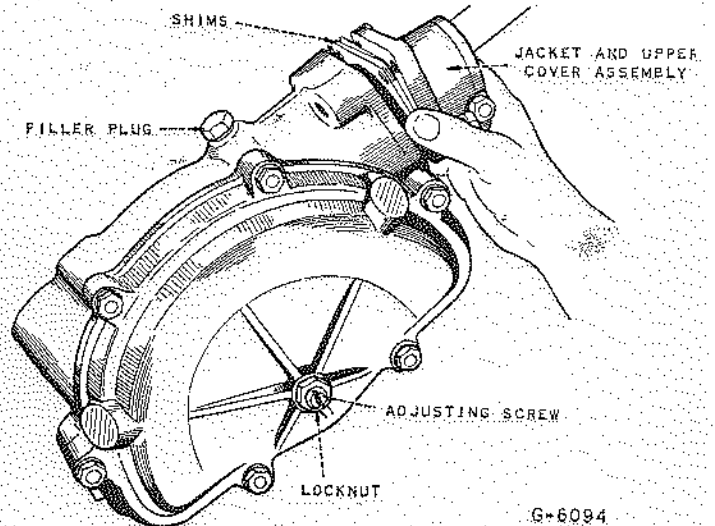

Fig. 4 - Showing location of Shims under Upper Housing Cover used to adjust end play on Cam
large locating ring to reinforce the knife edge of the rubber sealing ring. The seal assembly is then tightened in place by eleven cap screws (Fig. 4).
11. The bronze bush outer is pressed into the stub axle with oil groove breaking through to the end of the bush on the flanged end of the axle, and the groove located circumferentially closest to another groove through the threads on the stub axle. The circlip is fitted into a groove in the splines on the outer driving axle, and the two centre floating components of the tracta joint are placed in the bell housing to mate with the driving axle inner (Fig. 4).
14. The grease trap is screwed with twelve slotted round head screws onto the inner face of the hub and the wheel bearing cups pressed in from both ends of the hub. The inner bearing cone is assembled in the cup and the oil seal is pressed over it, taking care to have the lip of the seal facing in towards the bearing. The wheel hub is assembled on the stub axle and the bearings and cavity between them approximately 2/3 filled with wheel bearing grease. The outer wheel bearing cone is assembled and the wheel bearing inner adjusting nut screwed on (shoulder outwards). Using the special tube spanner provided, the nut is tightened so that the end float is eliminated but the hub must still turn freely (Fig. 4).
17. The sling ring is assembled over the driving studs and the slotted lock nuts screwed up firmly on them (Fig. 4).
- (c) Unscrew the four screws (3) and raise the housing upper cover to permit removal of shims. (Shims are of .002", .003" and .010" thicknesses). (Fig. 4).